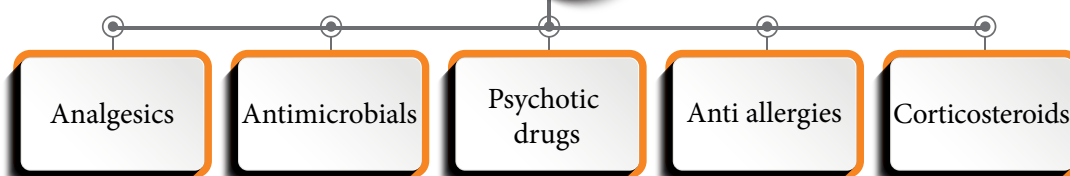

Figure 5.14 Types of modern medicines
- Figure 5.14 lists the types of modern medicines; while Table 5.7 explains their functions, uses and side effects, along with examples.